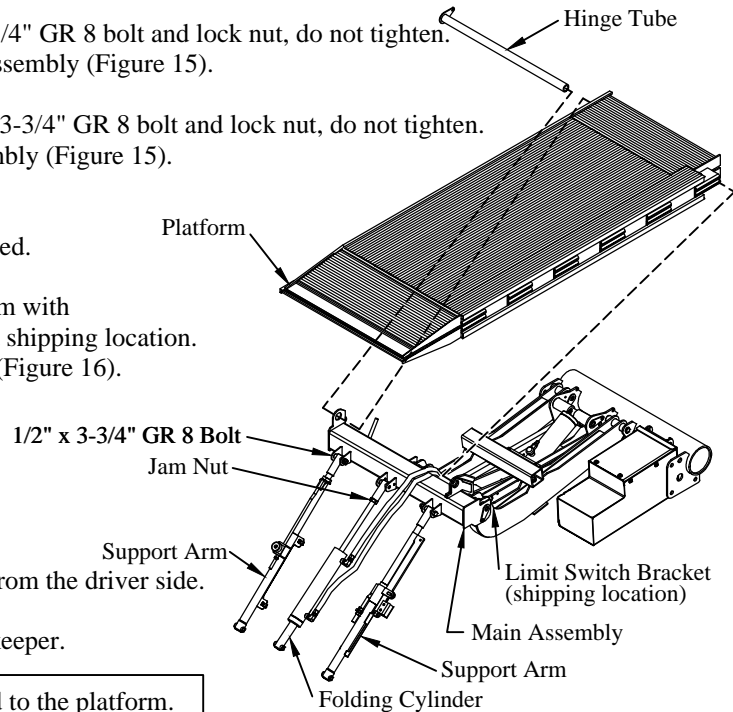

Figure 15: Platform parts location.
- 1. Install** the support arms on the main assembly, using a 1/2"x3-3/4" GR 8 bolt and lock nut, do not tighten. The threaded end of the support arm goes toward the main assembly (Figure 15).
- 2. Install** the folding cylinder on the main assembly, using a 1/2"x3-3/4" GR 8 bolt and lock nut, do not tighten. The threaded end of the cylinder goes toward the main assembly (Figure 15).